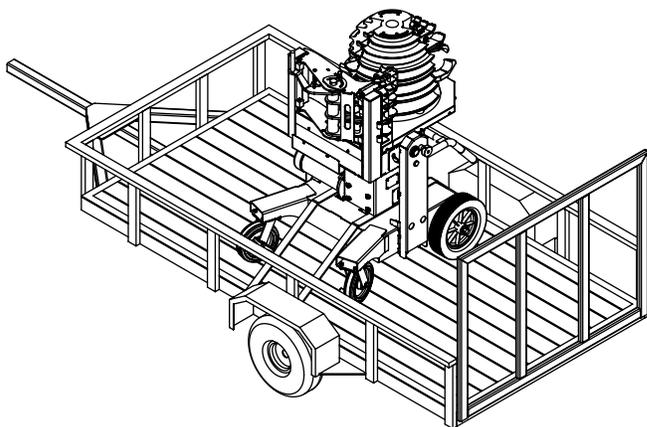

Figure 12a
2. Place the bender on the trailer in the orientation shown in Figure 12a.